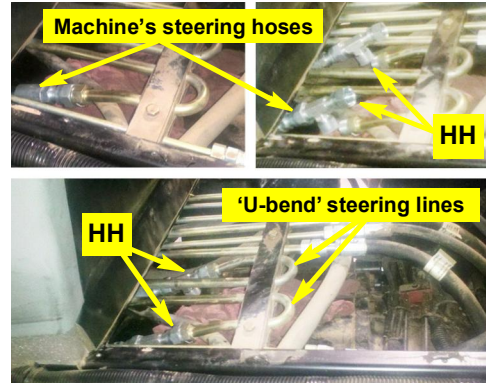

Figure 3b: Steering run-tees installed
- b. Locate the 'U-bend' steering lines (Figure 3b, bottom), disconnect each steering hose from its steering line and connect it to the male 'T' end of a run-tee HH (Figure 3b, top left and right). Connect the female 'T' end of each run-tee to its respective steel line (Figure 3b, bottom).